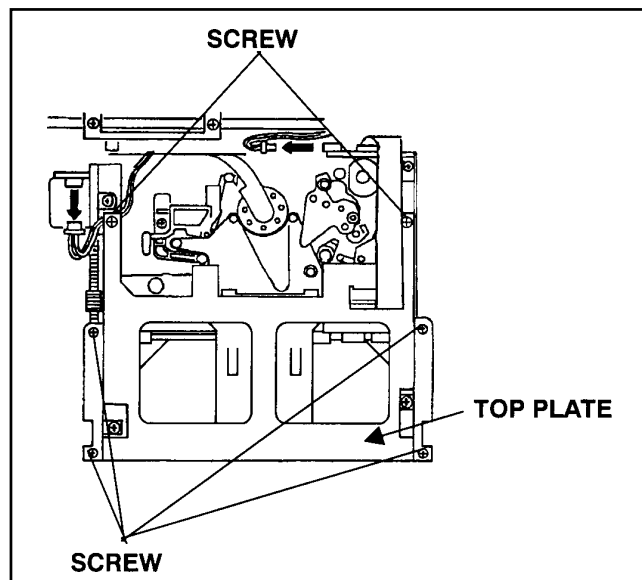

Figure 1-7-1
3. Unscrew the 6 screws and remove the Top Plate on the Front Loading Unit as shown in figure 1-7-1.